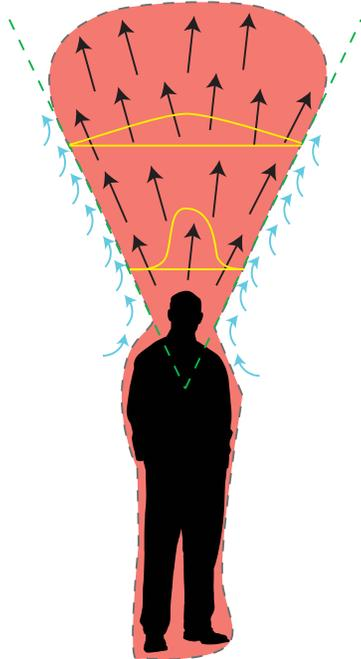

Fig. 3 - Thermal Plume
This can be directly related to Displacement Ventilation. As cool, dense supply air discharges from the diffuser, it is physically heavier than the warmer room air, causing it to sink to the floor. From there, the air travels along the floor as it is drawn towards convective heat sources such as people, computer equipment and lights. Each heat source generates a convective plume, driven by buoyancy forces, creating an upward velocity of warm air around the source **(Fig. 3)**. This velocity creates a low pressure region along the surface of the source creating a constant flow of cool, ventilated supply air entrainment into the plume, effectively cooling the heat source and providing fresh air to the breathing zone.
1. Zone Air Distribution Effectiveness (EZ) of 1.2 requires 20% less ventilation airflow.
2. Improved airborne contaminant removal efficiency, improving IAQ (see **Fig. 3**).